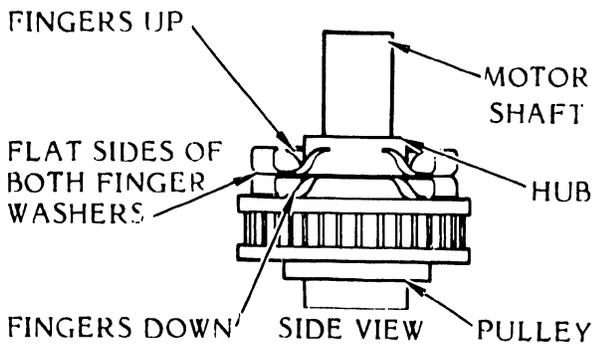

Figure 3-123. Ribbon Drive (Posidrive) Slip Clutch Removal/Installation
(Figure 3-123)
- f. Install the two spring washers, flat side to flat side, over the band drive motor shaft and hub (see figure 3-123).